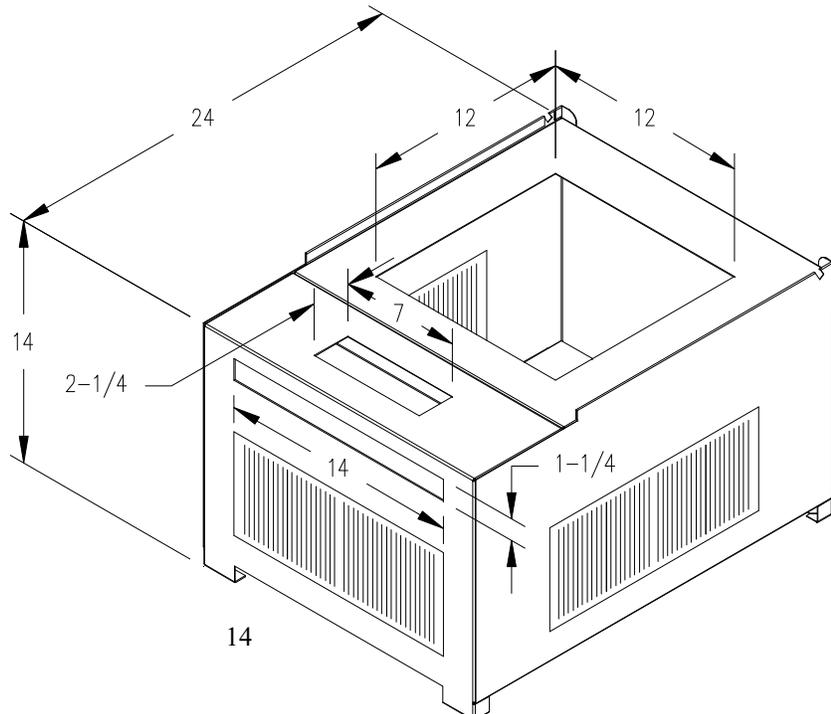

Figure 1C.
3. Model CMA4 furnace may be installed on a combustible floor when utilizing either the No. 70 counterflow floor base or CE111S coil cabinet for below the floor duct systems, or the cottage base for floor level air distribution. See Figure 1A for description of Combustible Floor Base and Figure 1C for Cottage Base.
The 01COT BASE cottage base (Figure 1C) is required for a freestanding cottage base installation. The cottage base allows the two sides and rear to have an 8" x 12" register installed. **IMPORTANT: All joints and seams of supply ducts must be sealed with a sealing method suitable to the application conditions and temperatures (I.E. High temperature silicone and/or aluminum tape).** Refer to assembly and installation instructions included with cottage base for additional information.